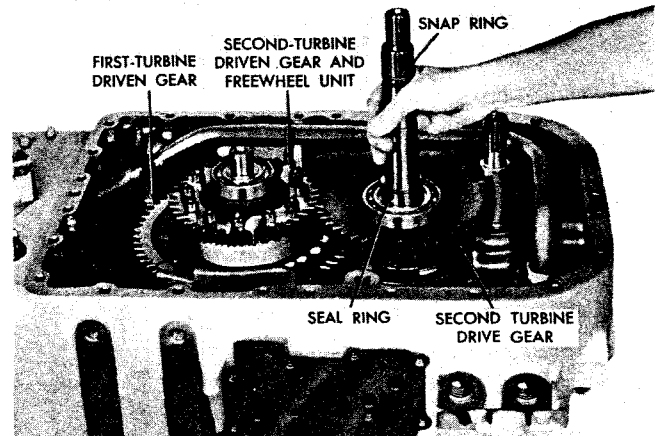

Fig. V-17. Removing (or installing) second-turbine gear, turbine driven gears and freewheel unit
(1) Remove the second-turbine drive gear, seal ring, snap ring, and ball bearing (fig. V-17).
(2) Remove the turbine freewheel unit, first-turbine driven gear and second-turbine driven gear as an assembly (fig. V-17).